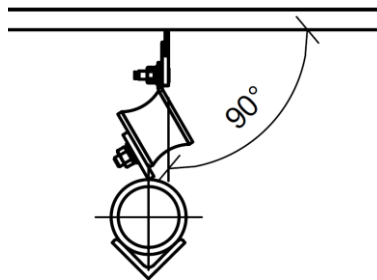

Figure 19 – Blade Alignment
2. Position the PHS belt cleaner so the tips are perpendicular to the belt, as shown in Figure 19. Rotate the pole and/or adjust the clamp bodies up or down, using the tension bolt, as required.